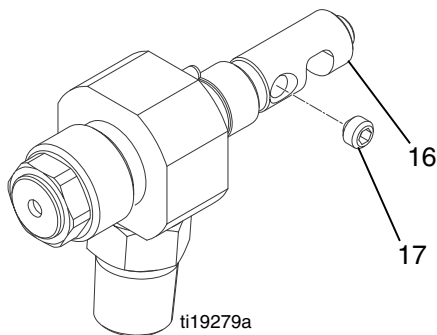

FIG. 14
- Install the spring guide (16) and seat it against the needle. Loosely thread both setscrews (17) into the spring guide then alternately and evenly tighten the setscrews to 10-15 in-lb (1.1-1.6 N•m). Fill the setscrew cavities with petroleum jelly. See FIG. 14.